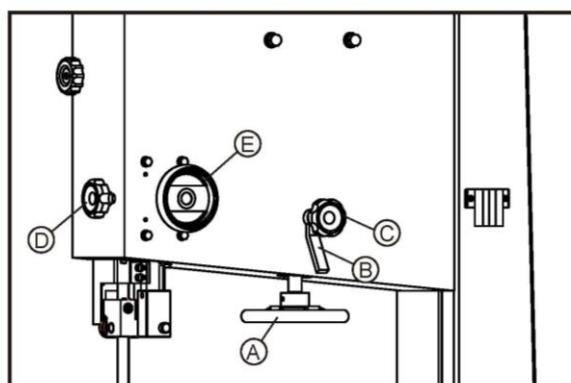

Fig.4.4.2
Place the blade onto the bandwheel checking the teeth are in a correct position, and then tighten the tension using the handwheel (A of FIG.4.4.2). The correct tension value is indicated on the tension scale inside the upper door, the indicated value corresponds to the width of the blade.
- Turn the bandwheels manually, checking that the blade does not interfere with any fixed parts and that the blade is placed correctly on the bandwheels. The points of the teeth should slightly protrude over the edge of the bandwheels. To adjust the blade position on the bandwheels slacken the locking lever (B of FIG.4.4.2), and then turn the knob (C of FIG.4.4.2): the blade will move inwards when turn the knob clockwise and the blade will move further out when turn the knob anticlockwise; A quarter of one circle is sufficient to make a noticeable displacement. Tighten the locking lever after the blade is positioned correctly.
The adjustable saw band guard should be positioned as close as possible to the workpiece. To adjust the height, release the locking knob (D of Fig.4.4.2) and turn the handwheel (E of Fig.4.4.2) to adjust the guard up or down. Lock the knob once the correct position of guard is obtained.
The adjustable saw band guard should be positioned as close as possible to the workpiece. To adjust the height, release the locking knob (D of Fig.4.4.2) and turn the handwheel (E of Fig.4.4.2) to adjust the guard up or down. Lock the knob once the correct position of guard is obtained. This operation must always be carried out while the machine is stopped.